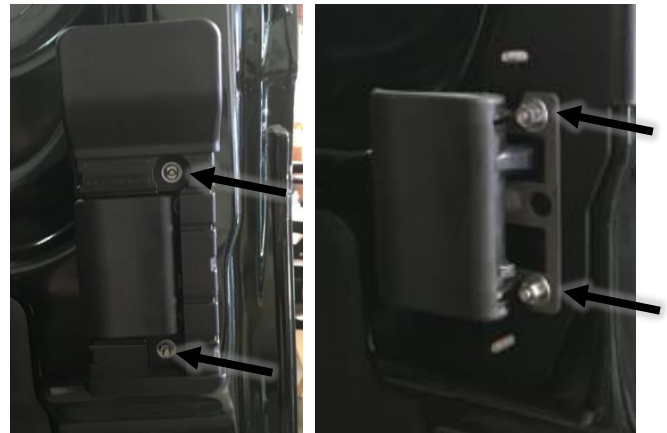

Figure 25: Plastic Handle (left) and Latch Handle (right)
- b. Remove the plastic handle by loosening the two (2) exposed bolts with a 7mm socket (Figure 25).
- c. Remove the latch handle by loosening the two (2) remaining 7mm nuts (Figure 25).